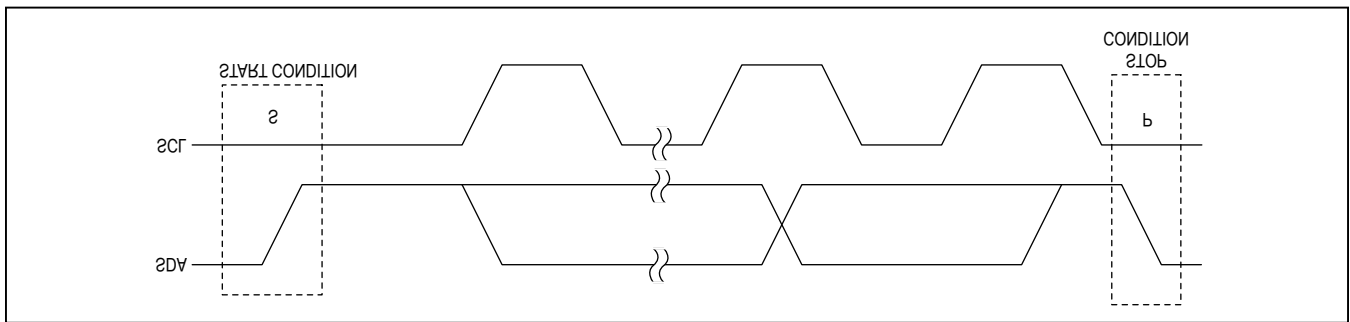
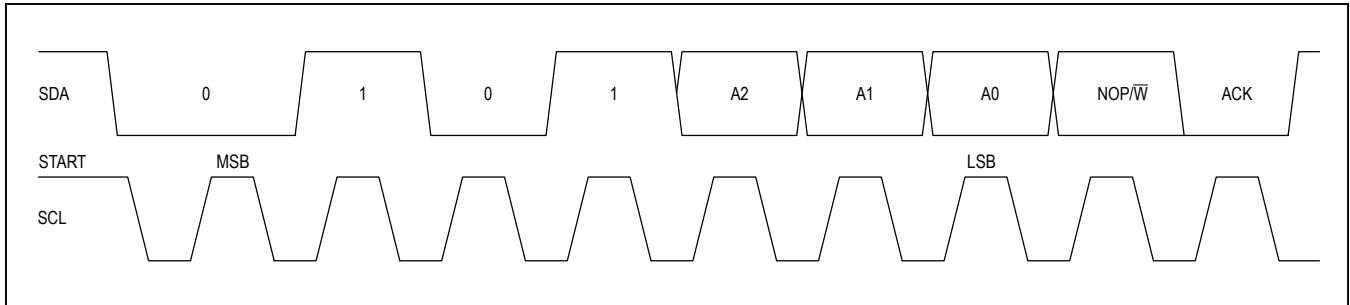

Figure 3. START and STOP Conditions
Figure 6. Slave Address
Each transmission consists of a START (S) condition (Figure 3) sent by a master, followed by the MAX5387 7-bit slave address plus the NOP/̄W bit (Figure 6), 1 command byte and 1 data byte, and finally a STOP (P) condition (Figure 3).
The MAX5387 includes a 7-bit slave address (Figure 6). The 8th bit following the 7th bit of the slave address is the NOP/W bit. Set the NOP/W bit low for a write command and high for a no-operation command. The device does not support readback.